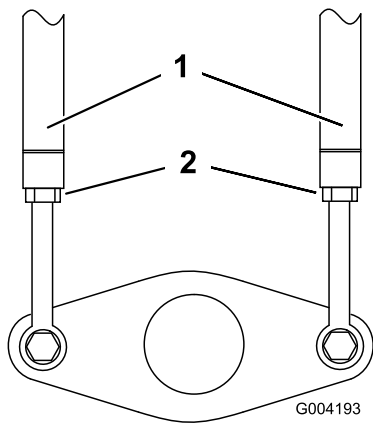

Figure 51
3. Loosen the jam nuts on the traction rods, under the control panel (Figure 51).